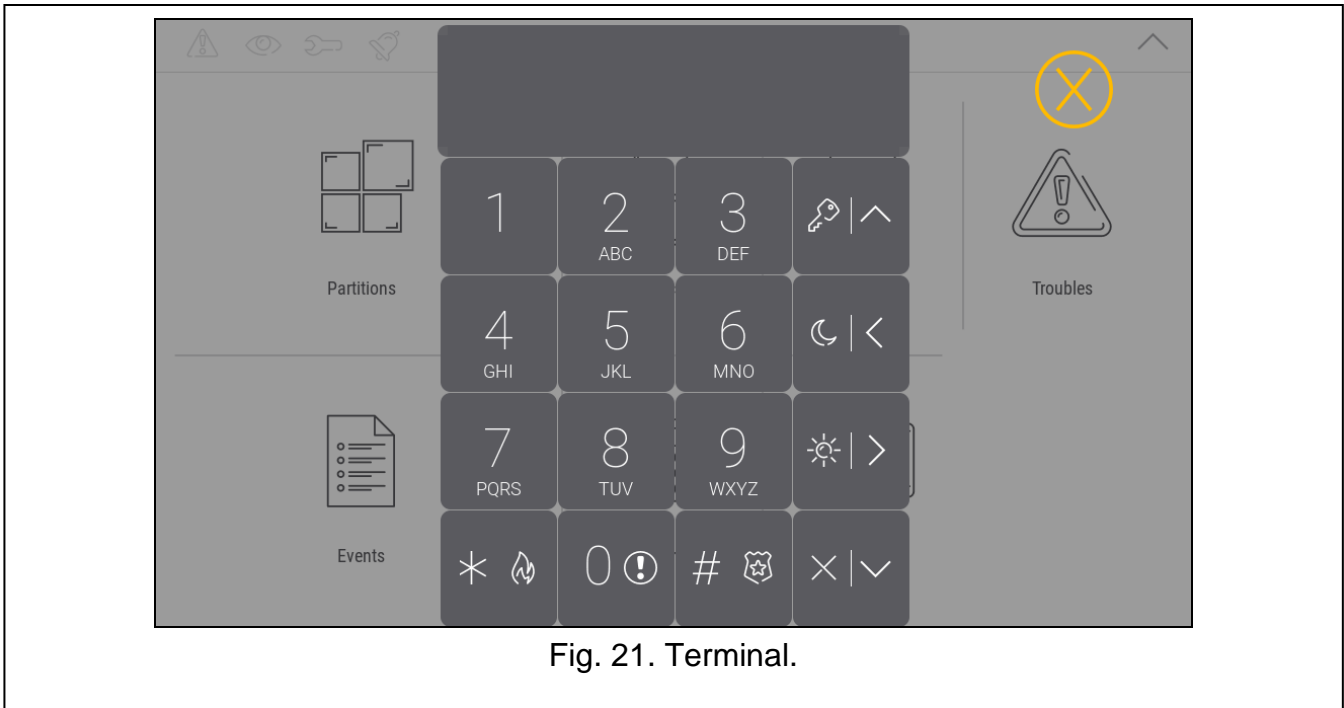

Fig. 21. Terminal.
4. Tap the "Terminal" function. The terminal will be displayed (Fig. 21).